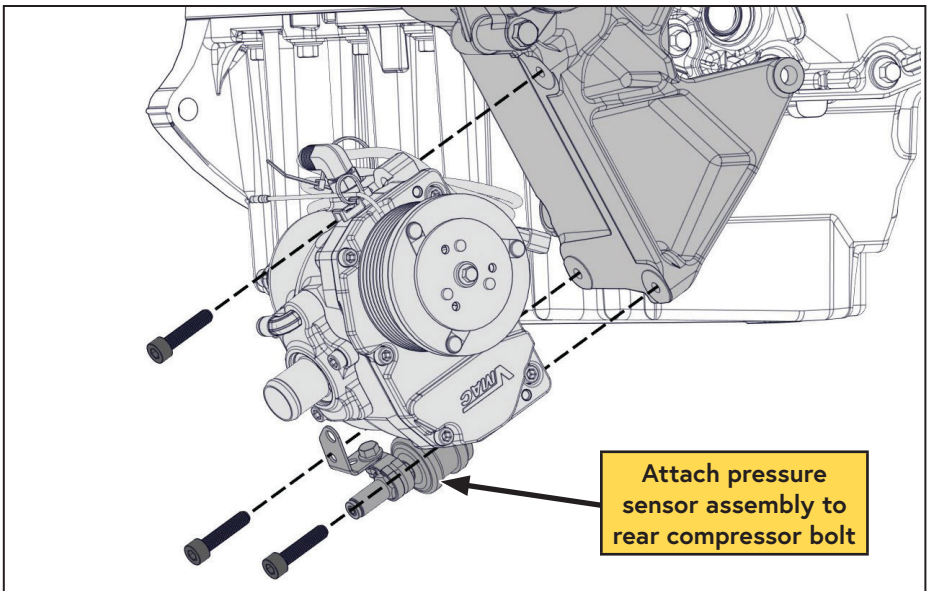

Figure 15 — Mount compressor
- Using the (×3) M8 × 1.25 × 35 mm bolts, mount the compressor assembly, and pressure switch assembly (in the orientation shown) onto the main bracket (Figure 15).